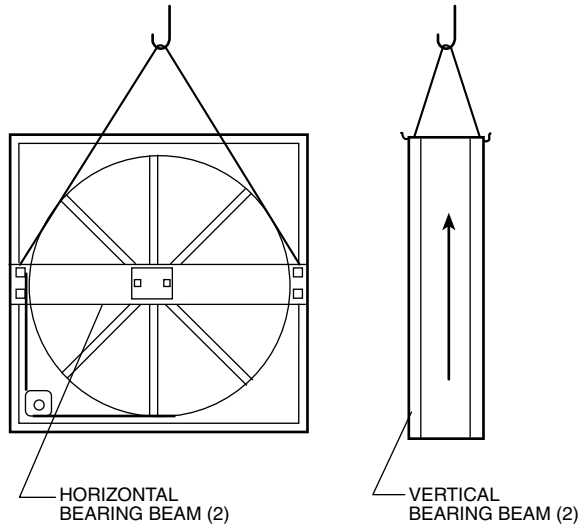

Fig. 184 — Lifting Hole Locations
2. Handle ERV cassettes with care. Lift by the bearing support beam. Holes are provided on both sides of the bearing support beams to facilitate rigging (Fig. 184).